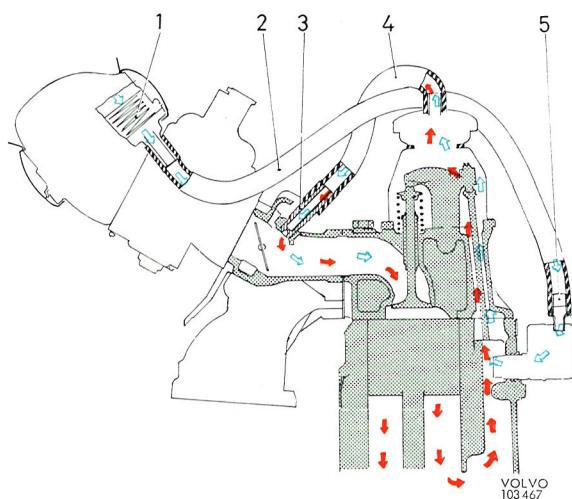

Fig. 2-19. Positive crankcase ventilation
Between the rocker arm casing and the intake manifold there is a hose (4, Fig. 2-19). It is connected to the intake manifold by means of a calibrated nipple (3). (This nipple should be cleaned every 40,000 km = 25,000 miles.) Between the oil trap, which is connected to the crankcase, and the air cleaner there is a hose (2) connected for the fresh-air supply. At the connection to the oil trap there is a flame guard (5),